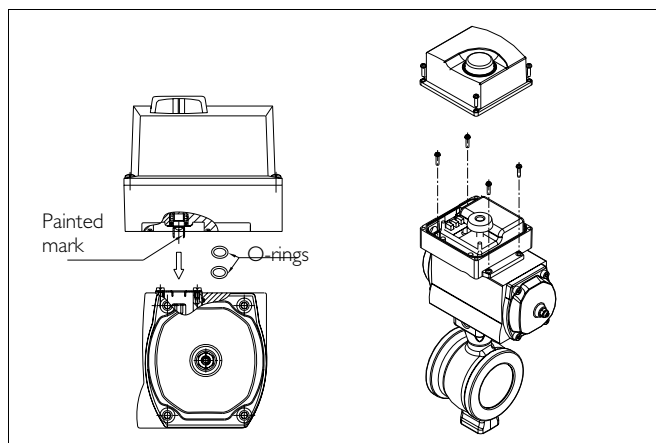

Fig. 5. Mounting on EC and EJ actuators
- Mount the O-rings (38) into the air connections in the bottom of the controller.
- Place the valve controller on top of the actuator so that the yellow mark is located in the position shown in Fig. 5. See also Fig. 15.
- Fasten the screws (4). Two of the screws are located at the front edge and two inside the controller housing.